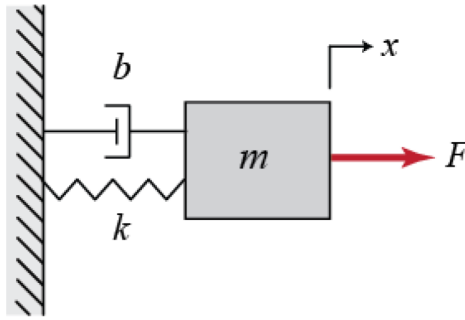

Figure 1: Mass Spring Damper System
1. We will analyse the system shown in the *Figure 1*.